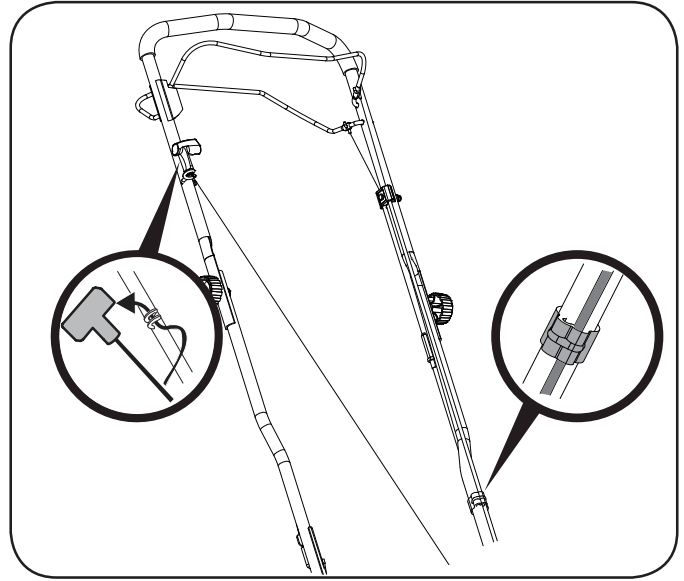

Figure 5
1. Hold the blade control handle against the upper handle. Slowly pull starter rope handle from engine and clip starter rope into the rope guide (Figure 5).
2. Use the cable clamp to secure the control cable to the handle (Figure 5).